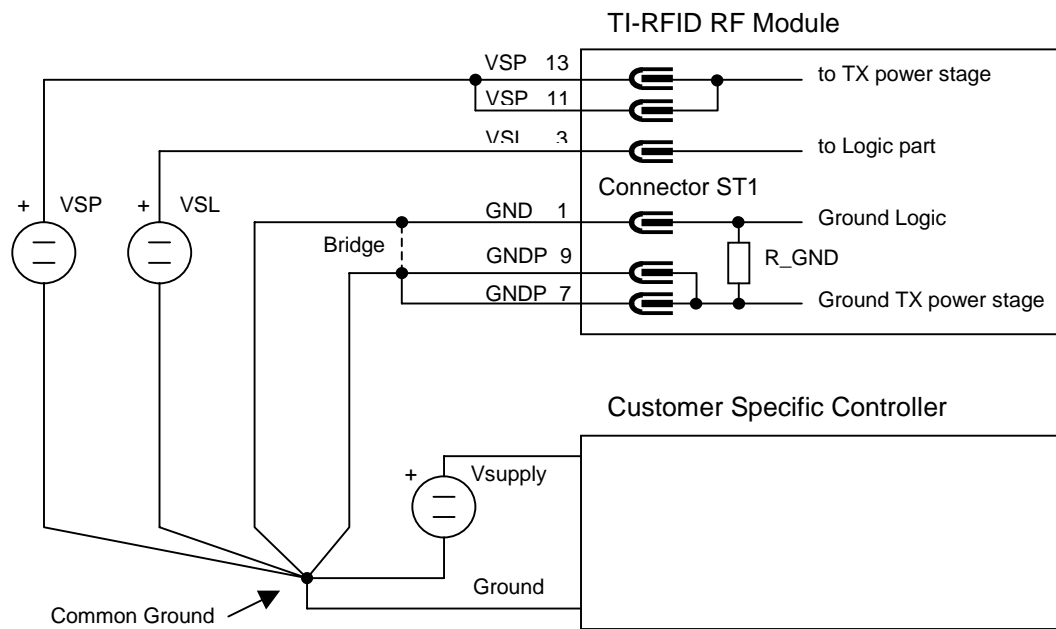

Figure 9: External Ground Connection (GND to GNDP)
1. A high resistivity of the GNDP pins could cause a voltage drop across these pins, due to high transmitter power stage current (this does not apply to the supply pins of the logic section). If the grounds were connected to each other internally, this would also lift the internal logic ground and cause logic level compatibility problems with the Control Module (see Figure 9).
2. In order to provide greater flexibility when using long supply lines. Long VSP supply lines between the RA-RFM and the Control Module cause a voltage drop across this supply line (again due to high transmitter power stage supply current). This voltage drop would also lift the logic ground and cause logic level compatibility problems with the Control Module. This can be avoided by connecting the grounds externally in any of three different ways (see also Figure 9) as described below:
- For cable lengths of up to 0.5 m between RA-RFM and Control Module, the RFM ground pins GND and GNDP must be connected at the Control Module, as shown in Figure 9. The grounds for the VSP, VSL and the Control Module supply are connected together at a common ground. Alternatively, if the voltage drop across the VSP supply line is less than 0.5 V (likely in this case), the ground pins GND and GNDP may be connected together at the RA-RFM. If the system has a TI-RFID Control Module, the RA-RFM ground pins GND and GNDP are already connected together correctly on the Control Module. When using a customer-specific controller, care must be taken to connect the RA-RFM ground pins GND and GNDP to an appropriate ground on the controller.
- Cable lengths longer than 2 m are not recommended. If the application demands cabling longer than 2 m, the logic signal connections between the RA-RFM and the Control Module should be done via a differential interface (for example RS422). Due to different ground potentials at different locations it may also be necessary to provide galvanic separation of the interface signals by, for example, opto-couplers. In this case, to avoid problems with difference voltages between GND and GNDP, these pins must always be connected directly at the RA-RFM. As shown in Figure 9 a shorting bridge is necessary for this purpose, situated as close as possible to the RA-RFM.